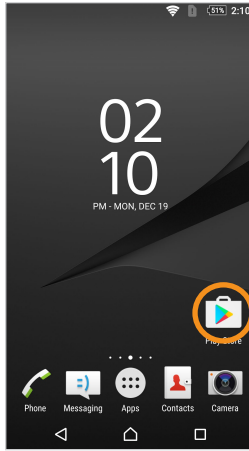

Figure 19.9 - Open the Google Play Store.
- a. Make sure the smartphone is connected to the internet, and open Google Play Store (Figure 19.9).